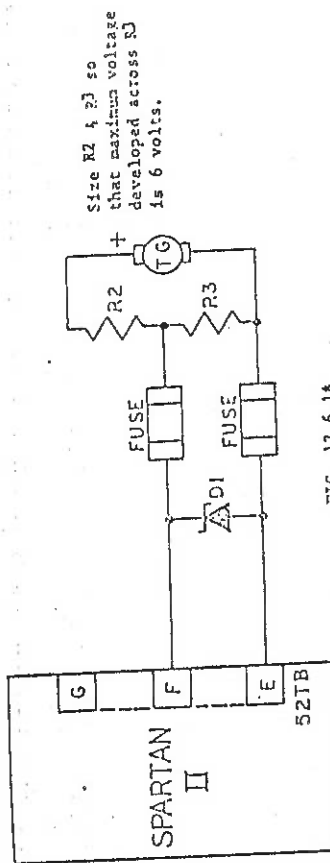

FIG. 12.6.1*
- b) Connect the external signal source to 52 T3 through a transducer constructed per Figures 12.6.1 or 12.6.2.